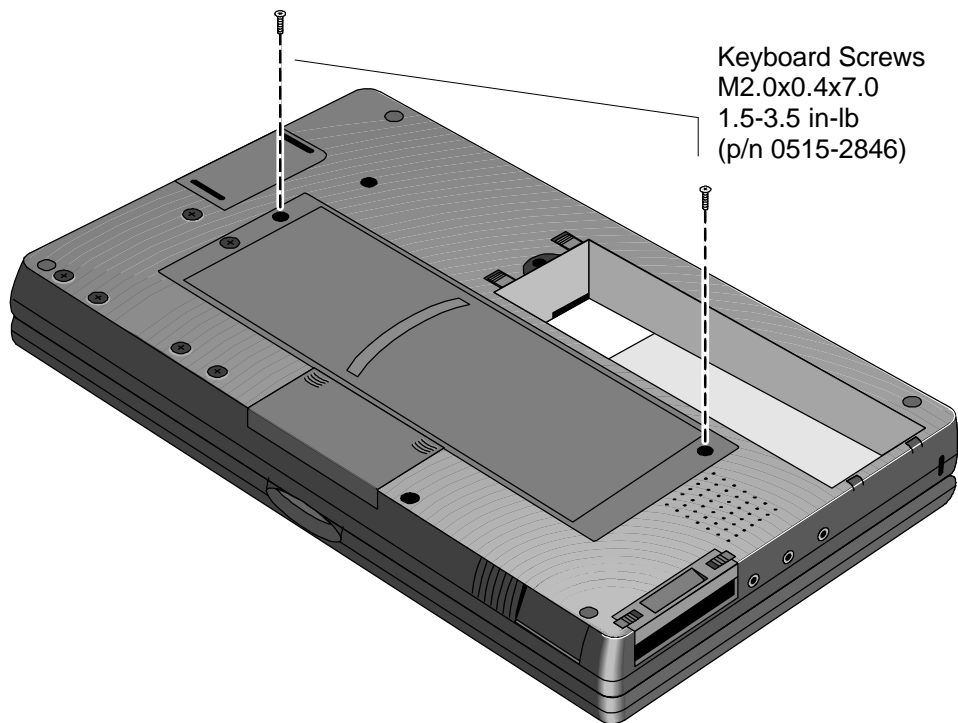

Figure 28 - Keyboard Screws
3. Remove the two keyboard screws from the bottom case. See Figure 28.